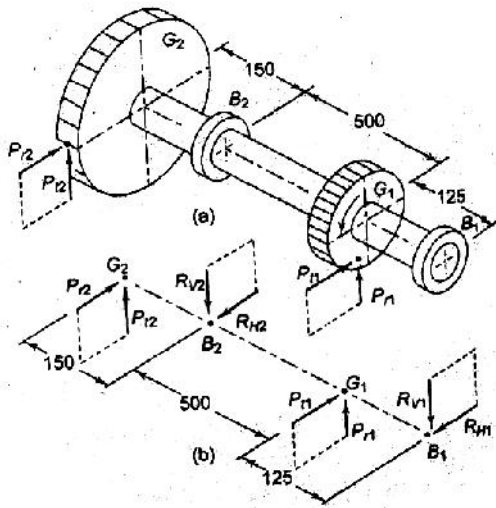

FIGURE -2.
7. A Shaft transmitting **50kW** at **125 rpm** from gear **G₁** to gear **G₂** and mounted on two single row deep groove ball bearings **B₁** and **B₂** are shown in **FIGURE-2**. The gear tooth forces are : **P_{t1} = 15915 N , P_{r1} = 5793 N , P_{t2} = 9549 N and P_{r2} = 3476 N**. The diameter of the shaft at bearings **B₁** and **B₂** is **φ75mm**. The load factor is **1.4** and the expected life **L_{10h}** of the bearings is **10,000 hrs**.